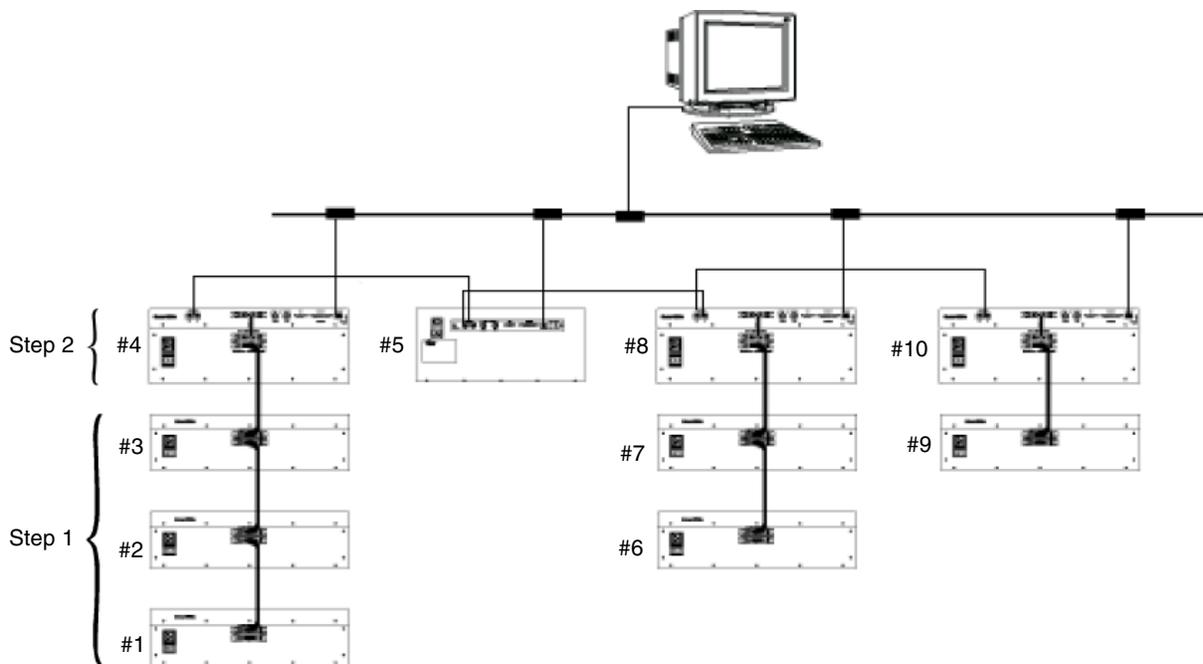

Figure A-5. Multiple Chassis Power Up Sequence
- A *dependent controller* may also be a *master controller* if it is an SMB-2000 and is also used in a stacking configuration as shown in Figure A-5 on page 74.
For an example of powering up multiple chassis in sequential order, we will use the example shown in *Figure A-5* below.
For powering down and disconnecting the chassis, we will use the example shown in *Figure A-5 on page 74*.